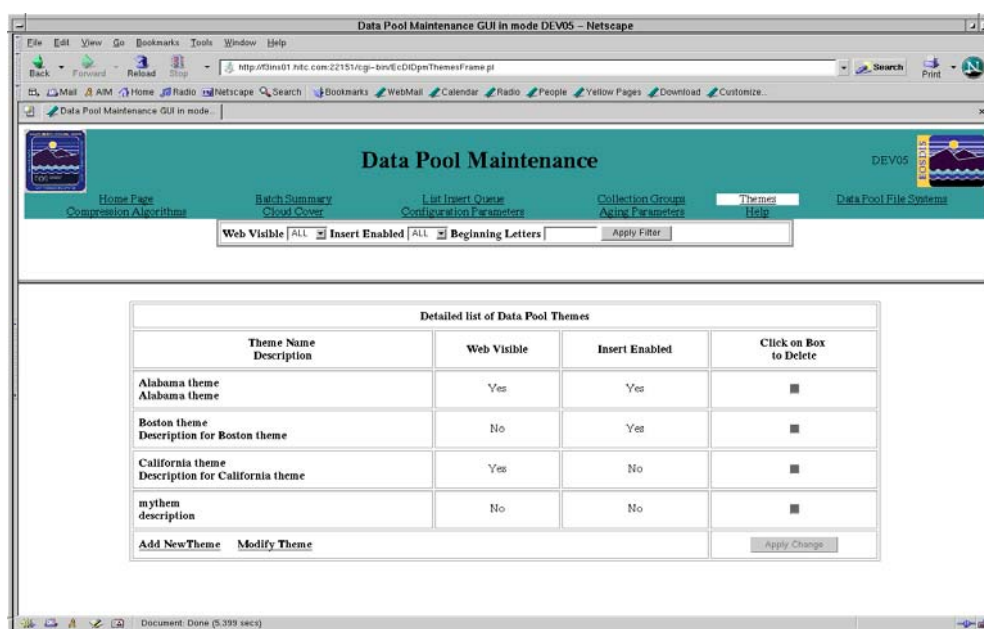
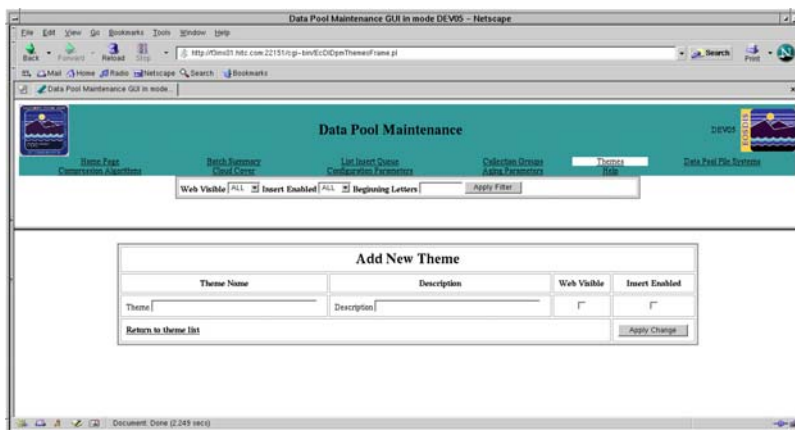

Figure 14.10-22. Detailed List of Data Pool Themes Page
Figure 14.10-23. Add New Theme Page
Figure 14.10-22 illustrates the **Detailed List of Data Pool Themes** page. The page allows either the full-capability operator or the limited-capability operator to view a list of themes in alphabetical order. The list can be filtered using the option lists for **Web Visible** and **Insert Enabled**, and/or typing **Beginning Letters** (of the theme name). After selecting the options, a click on the **Apply Filter** button displays the filtered list of themes. The full-capability operator can delete a theme by selecting the corresponding check box and clicking on the **Apply Change** button. There are **Add New Theme** and **Modify Theme** links providing access to pages for managing those functions. After the operator completes adding a new theme or modifying a theme by clicking on the **Apply Change** button at the pages for those functions, the changes take effect in the Data Pool database and the changes are also reflected in the **Detailed List of Data Pool Themes** page.
If a full-capability operator clicks on the **Add New Theme** link of the **Detailed List of Data Pool Themes** page shown in Figure 14.10-22, the **Add New Theme** page (Figure 14.10-23) is displayed. To specify a theme, the operator enters information in the fields provided for the purpose. **Theme Name** and **Description** are text entry fields. There are check boxes to specify whether the theme is valid for various options (i.e., **Web Visible** and **Insert Enabled**) or not. A click on the **Apply Change** button commits the changes to the Data Pool database and updates the **Detailed List of Data Pool Themes** page shown in Figure 14.10-22.
- The **Detailed List of Data Pool Themes** page is displayed (see Figure 14.10-23).
If a full-capability operator clicks on the **Modify Theme** link of the **Detailed List of Data Pool Themes** page shown in Figure 14.10-22, the **Modify Theme** page (Figure 14.10-24) is displayed. **Theme Name** is the only field that is not editable. The operator can modify the description of a theme by simply retyping in the text area. The operator also can change the various options (i.e., **Web Visible** and **Insert Enabled**) by selecting or deselecting the appropriate boxes. A click on the **Apply Change** button commits the changes to the Data Pool database and updates the **Detailed List of Data Pool Themes** page shown in Figure 14.10-22.